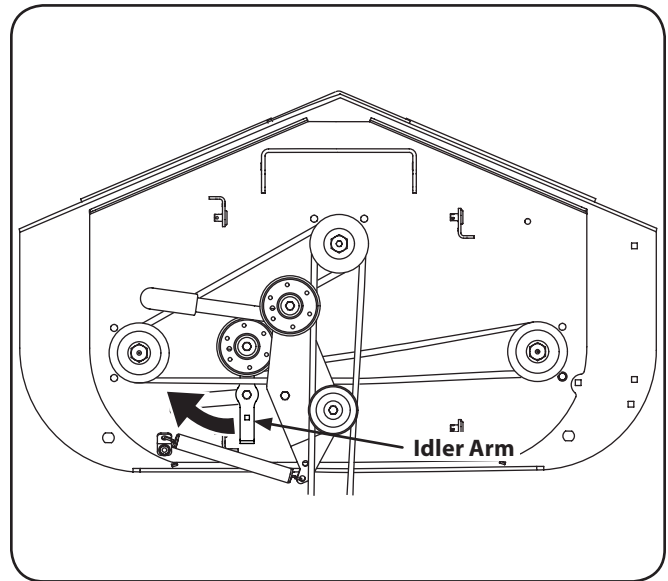

Figure 7-3
3. Using a  $\frac{1}{2}$ " socket breaker bar or socket ratchet insert the male end into the  $\frac{1}{2}$ " square opening in the lower idler arm assembly and pull the idler arm clockwise. See Fig. 7-3. While holding the idler arm back, loosen the deck belt from the pulley and slide the belt away from the pulley.